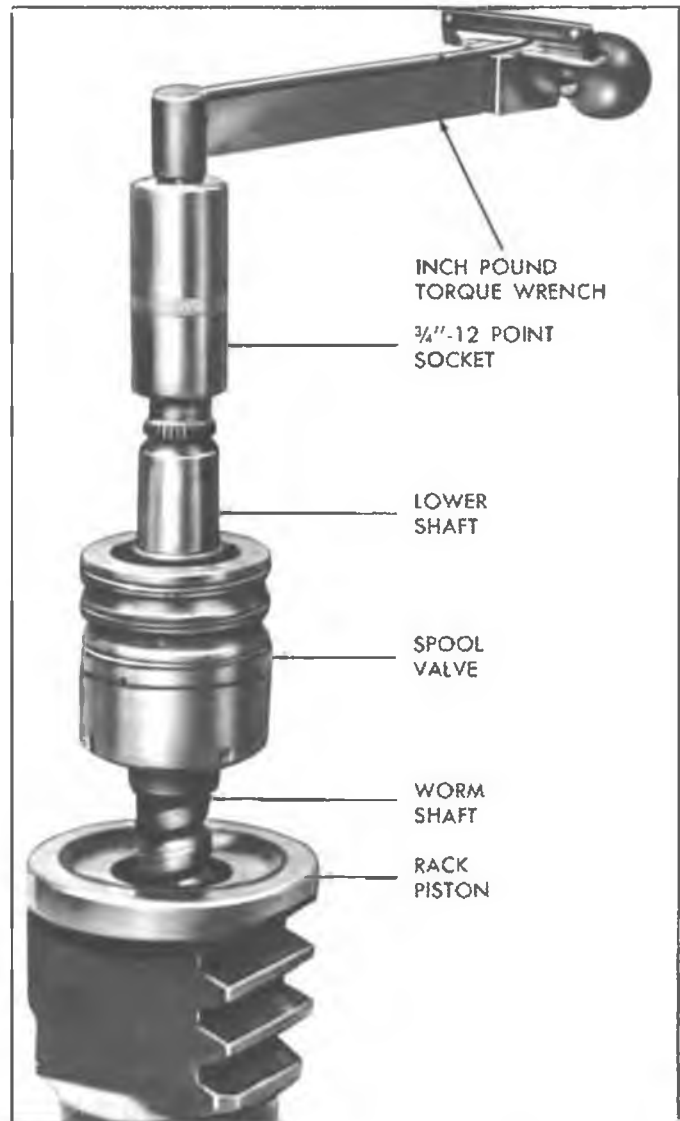

Fig. 47—Checking Ball Drag
- d. Using a torque wrench and a $\frac{3}{4}$ " 12 point socket, check the drag while rotating the torque wrench in a 120° arc. The reading should not exceed 3 in. lbs. (fig. 47).